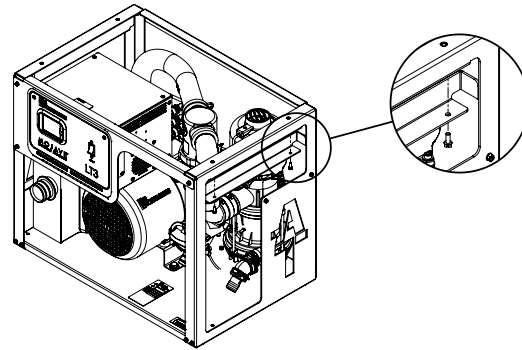

Figure 3. Chassis bottom grips
1. Remove the chassis bottom grips on the MOJAVE LT (see figure 3) by removing the two screws securing them in place.